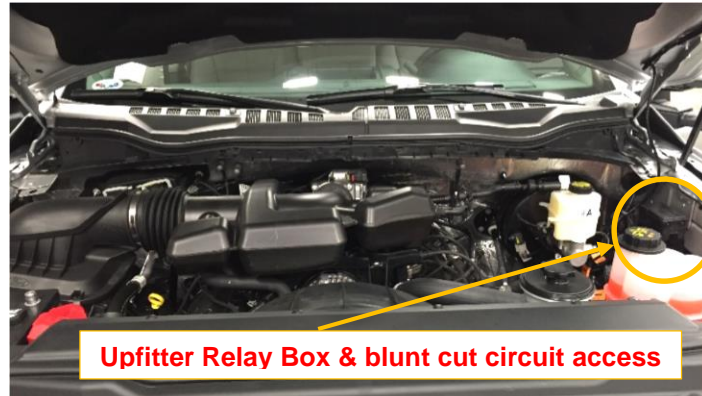

Figure 2: Upfitter Relay Box and upfitter switch blunt cut output location.
2. Locate the relay pack on the Left hand side (driver's side) of the engine compartment (see Fig. 2).